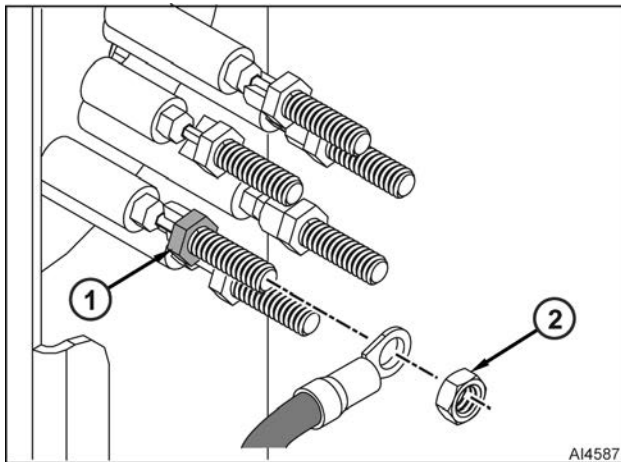

Fig. 31
**NOTE:** Use wrench to hold backing nut (1, Fig. 31) in place when removing leads / nuts (2, Fig. 31) from heating elements.